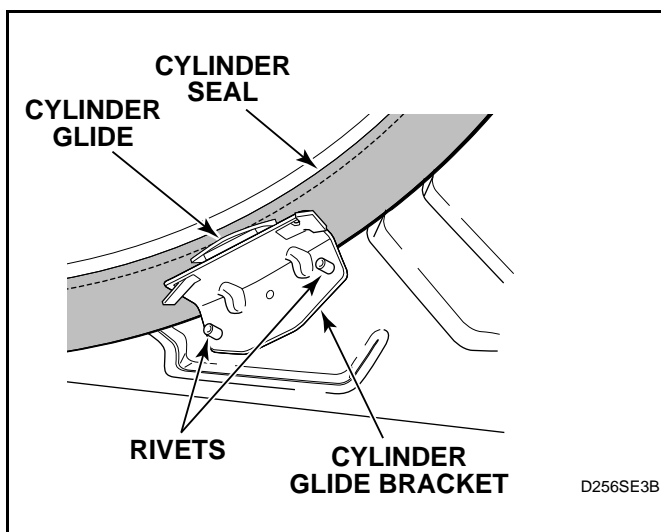

Figure 47
- Cylinder Glides and Glide Bracket. See *Figure 47*.